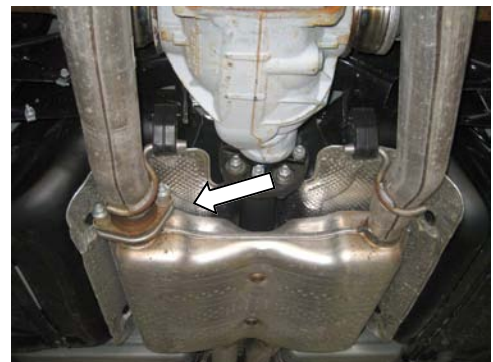

Figure 2
3. Unbolt the flange shown in figure 2 located on the driver side of vehicle just behind the front muffler assembly.